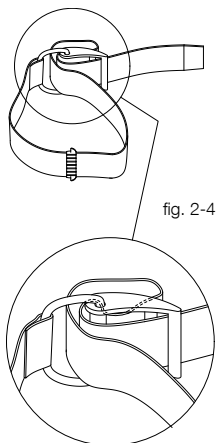

fig. 2-4
1. Rotate the buckle until it snaps into the open position. Slide the strap around the plastic buckle as shown in the figure (Fig. 2-4), wet the strap before clamping it in place on the tank, and adjust the length (Fig. 2-7).